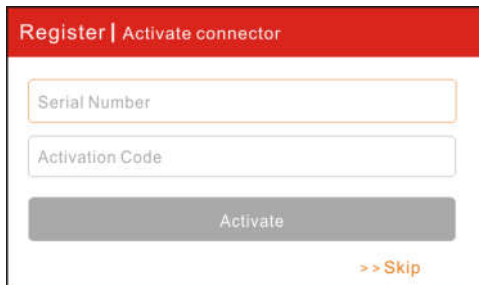

Fig. 4-4
- B. Activate the VCI device: In Fig. 4-4, input the Serial Number and Activation Code, which can be found in the password envelope.